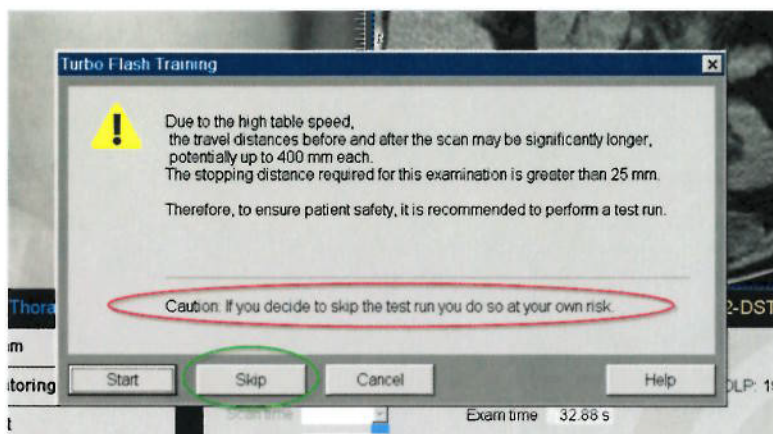

Fig. 2: Table test dialogue with warning if skipped
- b. The table test move is not a must and can be skipped. If this workaround is chosen, the operator must be particularly cautious and make sure that there are no obstacles in the way of the table top movement. The high table top speed during such examinations makes it impossible to stop the movement within the usually required 25 mm. The travel distance before and after the scan may be up to 400 mm. The corresponding dialog is shown in Fig. 2 below.